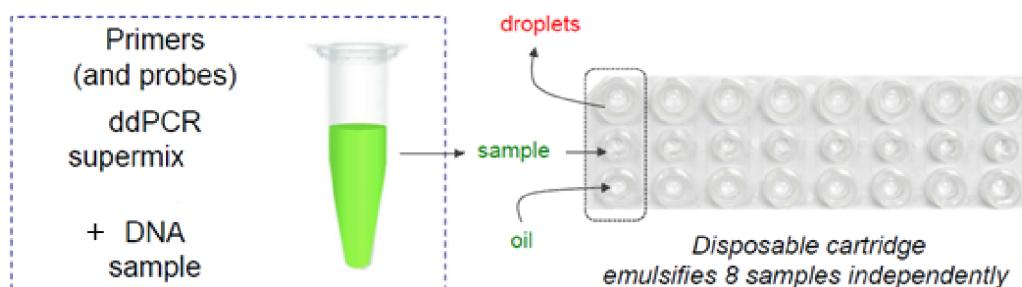

Figure 1 : DG8 cartridge filling
- Dispense the following volumes into the corresponding cartridge compartments (Figure 1):
- With the multi-channel pipet, transfer slowly $\text{40 } \mu\text{L}$ of droplets generated from the top line of the cartridge (Figure 1) into the ddPCR 96-well plate.